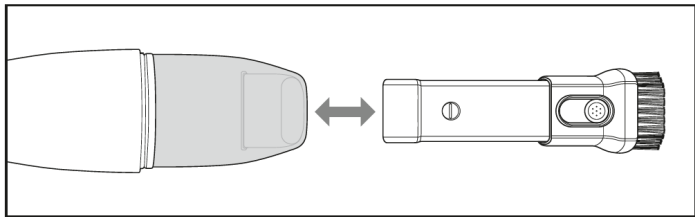

Fig. 2
- Insert the 2-in-1 nozzle «12» into the suction opening «2» of the appliance. Make sure that the button for adjusting the brush nozzle is facing upwards (see Fig. 2).
- To remove the 2-in-1 nozzle «12», pull it out of the suction opening «2» (see Fig. 2).